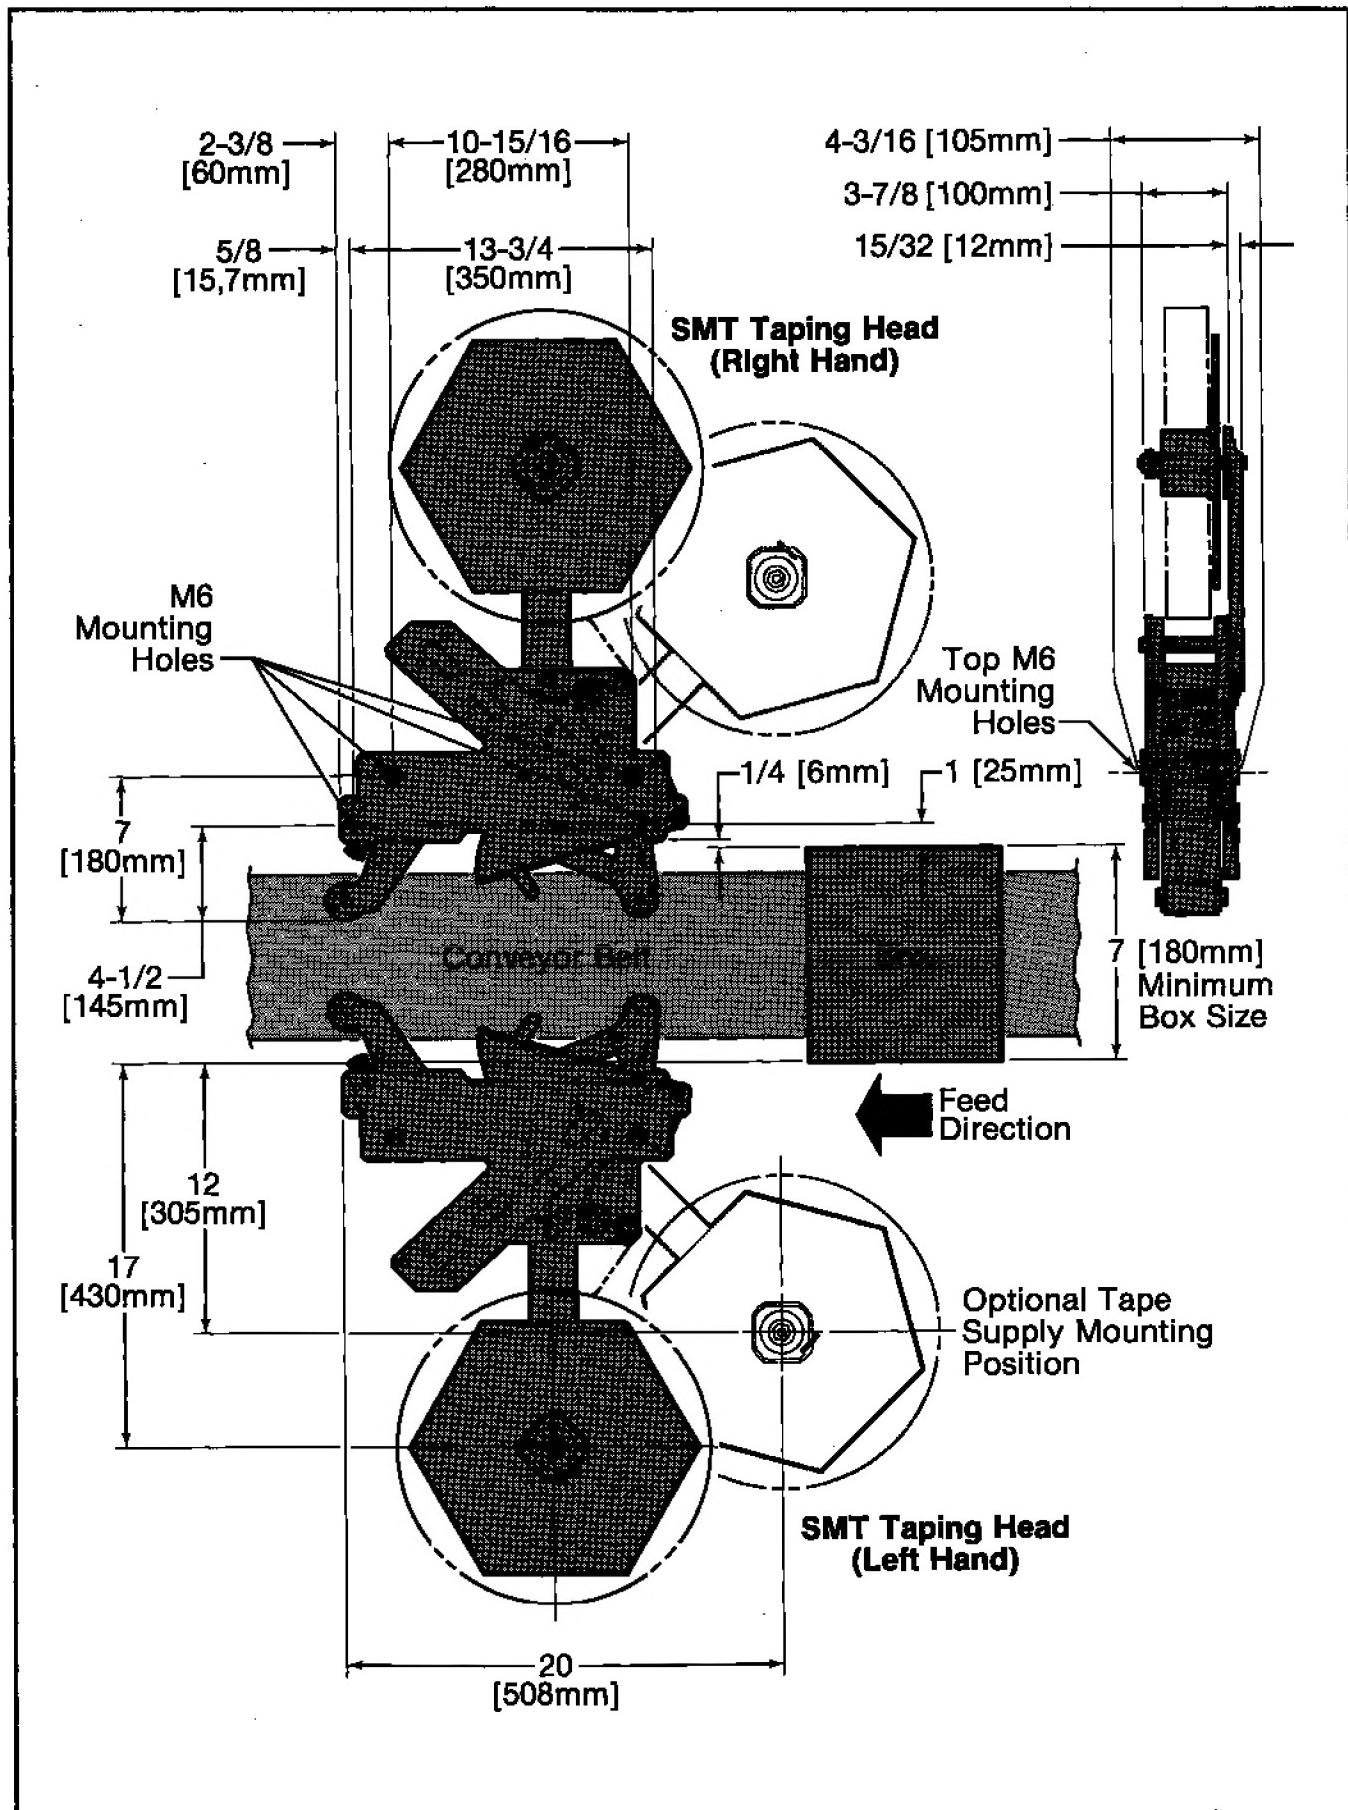

Figure 3 – Taping Head Assemblies – Typical Mounting – Top View
The SMT taping heads can be used in converting existing or in custom made machinery. It can be mounted for Right Hand and Left Hand side taping. Refer to box size specifications on page 3 and figure 3 on page 5, for the following points in making such installations:
3. Figure 3 illustrates the typical mounting relationship for opposing taping head assemblies to allow taping of box widths down to 7 inches or 180 mm. To tape box widths down to 2 3/4 inches [70 mm], the taping head assemblies must be completely staggered so only one tape seal is being applied at one time.
4. Two (2) mounting holes (M6 Dia) are provided in each taping head, but special installations may require alternate means for mounting. The Taping Head must be well supported, perpendicular to the box.
6. The taping heads provide two mounting positions for the tape drum bracket, as shown in figure 3.